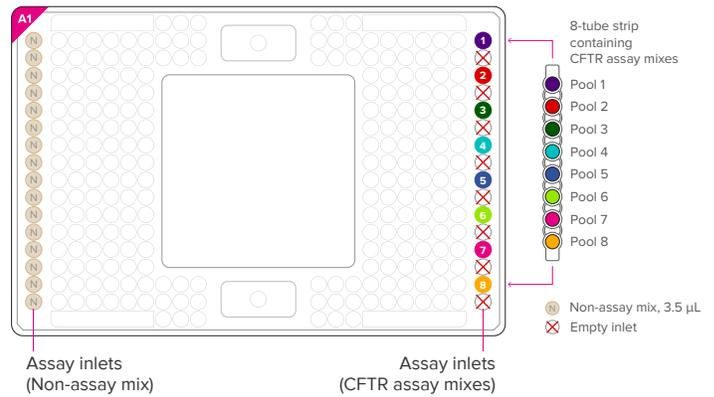
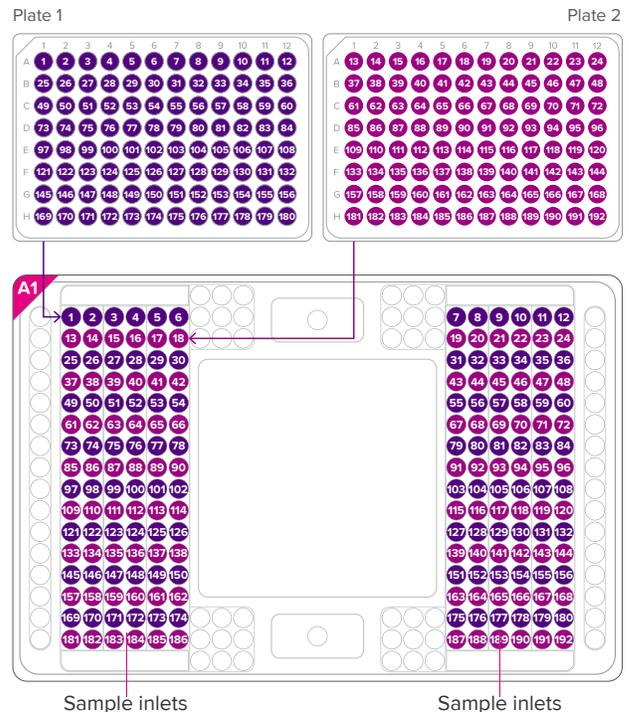

Figure 5. Assay loading map
Figure 6. Sample loading map
- To maintain traceability, note the orientation of the A1 corner, assay inlets, and sample inlets, as shown in Figure 5 and Figure 6, before you start pipetting.
- Carefully pipet 3.5 µL of each CFTR assay mix from the 8-well strip into the designated assay inlets on the IFC, as shown in Figure 5. When pipetting, dispense the CFTR assay mix while making contact with the side of the inlet near the bottom of the well.
- Carefully pipet 3.5 µL of non-assay mix into the remaining assay inlets (N), as shown in Figure 5. When pipetting, dispense the non-assay mix while making contact with the side of the inlet near the bottom of the well.
- Carefully pipet 3.5 µL of each sample mix into the predefined sample inlet of the IFC based on the predefined sample map, as shown in Figure 6. When pipetting, dispense the sample mixes while making contact with the side of the inlet near the bottom of the well.